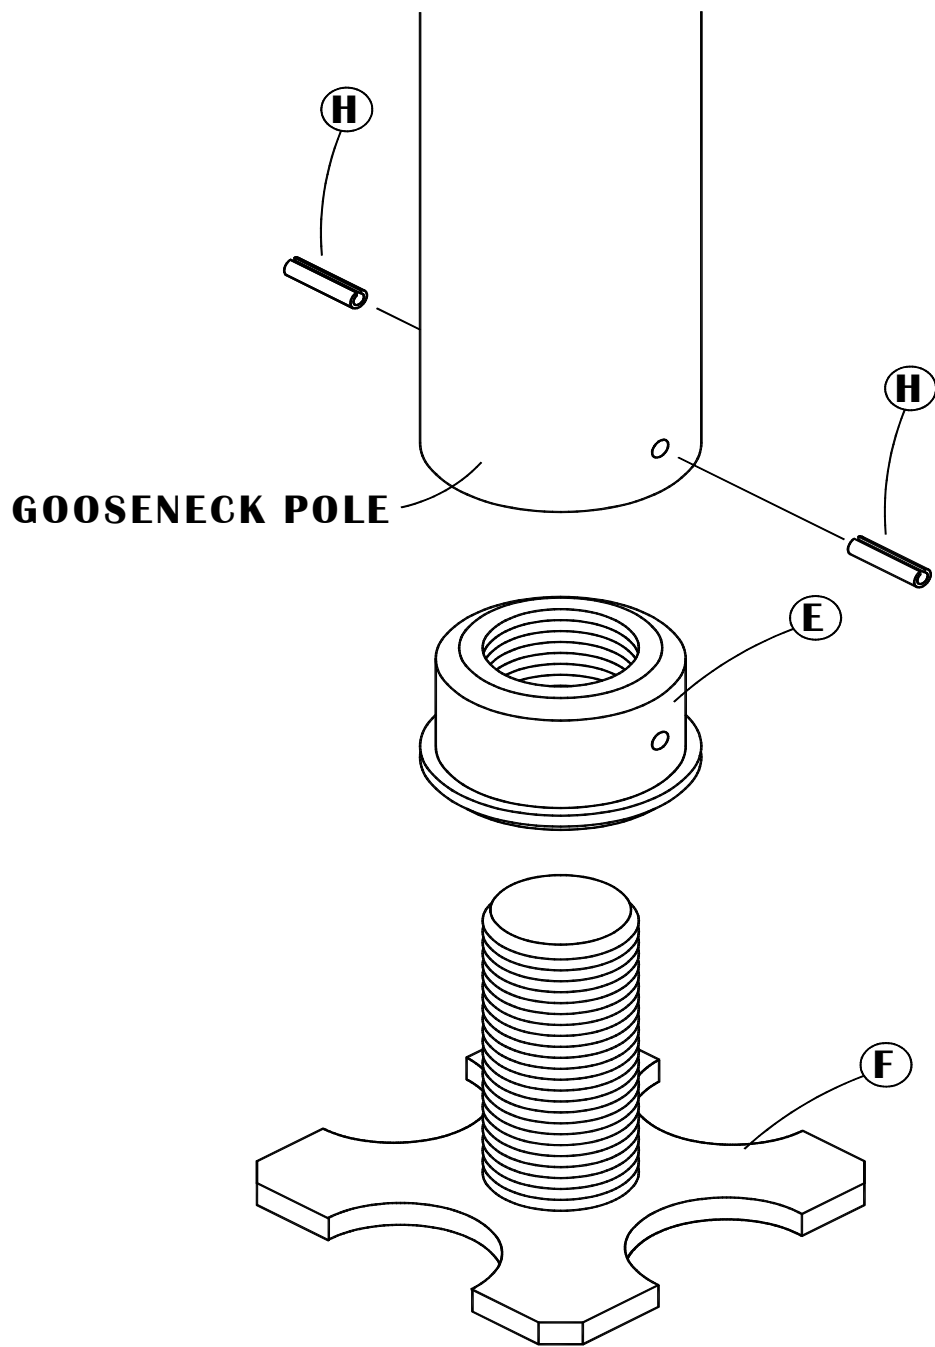

Figure 5
7. Insert the *adjustment nut* (E) into the bottom of the gooseneck pole. Using a 3/8" drill bit, drill 2 holes approximately 180° apart through the pole and about 1" into the adjustment nut. Stop drilling prior to reaching the internal threads of the nut. Drive the *roll pins* (H) through the pole and into the nut. Heavily grease all threaded areas. Screw the *adjustment screw* (F) completely into the *adjustment nut* (E). (See Figure 5)